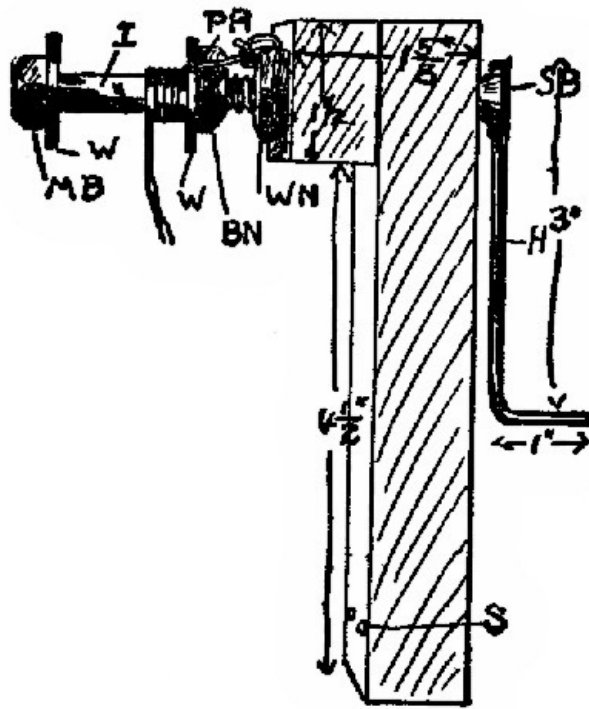

Fig. 70.
**121. The Coils** of wire to be used upon the bolt-cores should be put on with the winder (App. 93). For all ordinary purposes No. 24 or 25 single or double cotton covered copper wire will do. It is better to put on an even number of layers. The winding (See Fig. 70) begins at the nut-end of the bolt, and by using 6 or 8 layers of wire, instead of 5 or 7, both coil ends will be at the same end of the bolt.
122. *Method of Winding the Coils.* The winders used for bolt magnets are described in App. 91, etc. We shall suppose that the washer, *W*, Fig. 70, and the insulation, *I*, are upon the bolt before screwing it into the winder-nut, *W N*. Make a pinhole, *P H*, in the right-hand washer, as near the bolt-nut, *B N*, as possible. Stick about 6 in. of the wire through *P H*, and wind this end around *W N*, as shown, to hold the wire. The supply of wire should be upon a spool slipped onto some stationary rod (App. 23), so that you can give your entire attention to winding. Begin to turn the winder slowly at first. Turn the handle towards you when it is at the bottom, as in Fig. 70; that is, if you look at it from the side, turn the handle clockwise. Let the wire slip through your left hand as the turns are made, and guide it so that the turns will be close together. If they go on crooked, unwind at once, then rewind properly. You can guide the wire best by holding your left hand about 8 or 10 inches from the bolt. As soon as you reach the left side or head end of the bolt, feed the wire towards the right. If at any time the layers become rough on account of one turn slipping down between turns of the previous layer, fasten a piece of paraffine paper around the coil as soon as the imperfect layer is completed. Wind on 8 layers, and count the number of turns in one or two of them, so that you can tell about how many turns in all you have around the core. Make a "half-hitch" (see § 110) with the wire when the last layer is finished, to keep it from unwinding, and leave a 6 in. end.
**129. Winder.** Fig. 70. For winding bolt magnets, this form of winder is very useful. It consists of a "stove bolt," *S B*, 2 in. long (total length) and  $\frac{5}{16}$  in. in diameter.
**131. The Framework** is made of wood, the dimensions being shown in Fig. 70. A  $\frac{5}{16}$  hole should be made for *S B*, the thread of which will stick through about  $\frac{1}{4}$  in. so that the winder-nut, *W N*, can be turned onto it. *W N* should be on but 2 or 3 threads of *S B*. This will leave part of it for the thread of the bolt magnet, and when this and *S B* meet in center of *W N* they will bind against each other and hold the bolt tight. The winder can be nailed or screwed at *S* to the edge of a table or held in a vise.
138. *The Secondary Coil* should be made of a large number of turns of fine wire. Do not use anything coarser than No. 30. This is a good size, as finer wire is very easily broken by unskilled hands. For the size of bolt mentioned put on 13 layers. There will be about 100 turns to each layer, making a total of about 1,300 turns of No. 30 wire. Write down the total number of turns in *your* coil. To start the secondary coil, make a pinhole, *L*, just outside of the insulation, *K*, of the primary coil. Put 6 in. of wire through this, wind the end around the nut (App. 93, Fig. 70), and wind on as evenly as possible 13 layers. If the layers become rough, it is well to put a band of paper around after each 3 or 4. When you have finished take a half hitch (§ 110), and leave a 6-in. length free. Cover the secondary coil with strong paper. This coil may be used on any of the forms of shockers given.
The *Core* is a machine-bolt,  $4\frac{1}{2}$  in. long and  $\frac{5}{16}$  in. in diameter. You may use a carriage-bolt of the same dimensions, if you file away the square shoulder at the head end, so that it will be the same size as the body of the bolt. Paste a piece of thick paper upon the head, so that *A* will strike the paper instead of the iron. The *Washers* should be made around a spool that is fully 1 in. in diameter. (See § 119.) The core should be insulated with paraffine paper before winding on the primary coil. (See App. 88.) The washers are  $3\frac{3}{8}$  in. apart, inside. The *winding of the coils* should be done with App. 93, or some other winder. The winder-nut, *W N*, Fig. 70, must hold the long core perfectly tight, to avoid wobbling. The *base* is  $8 \times 5 \times \frac{7}{8}$  in. The different parts are placed as shown. The coil is fastened to the base as in App. 97. For *binding-posts* see App. 46.